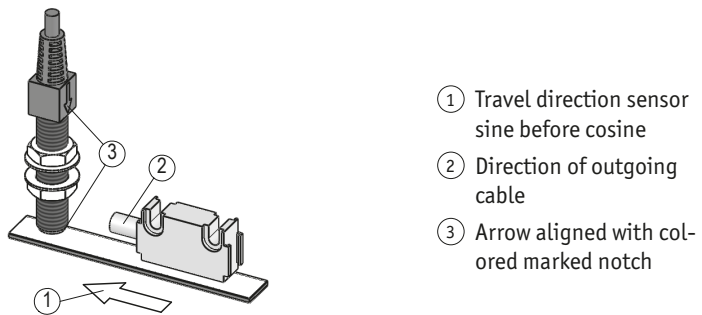

Fig. 6: Definition of counting direction
- ▶ Take care that the magnetic sensor is aligned correctly in order to ensure optimum sensing (see Fig. 6).